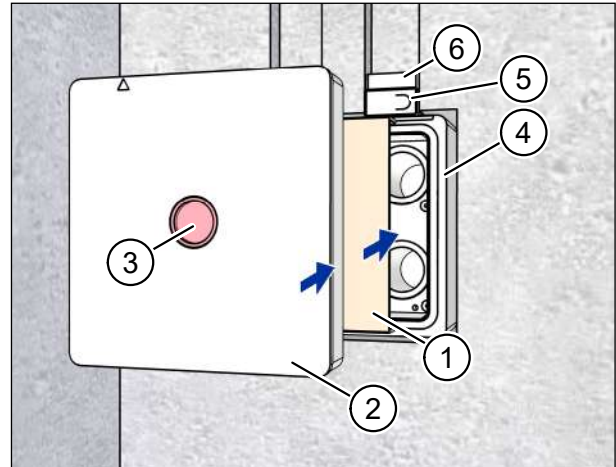

Fig. 18: Inserting the cardboard insert and plaster cover
- ▶ Insert the cardboard insert (item 1 in Fig. 18) into the wall box (item 4 in Fig. 18) as far as it will go.
- ▶ Insert the plaster cover (item 2 in Fig. 18) into the wall box (item 4 in Fig. 18) as far as it will go.
- ▶ Check that the red signal cover (item 3 in Fig. 18) is seated in the plaster cover.
- ▶ Check that the plaster covers (item 5 in Fig. 18) are seated in the 90° brackets (item 6 in Fig. 18).